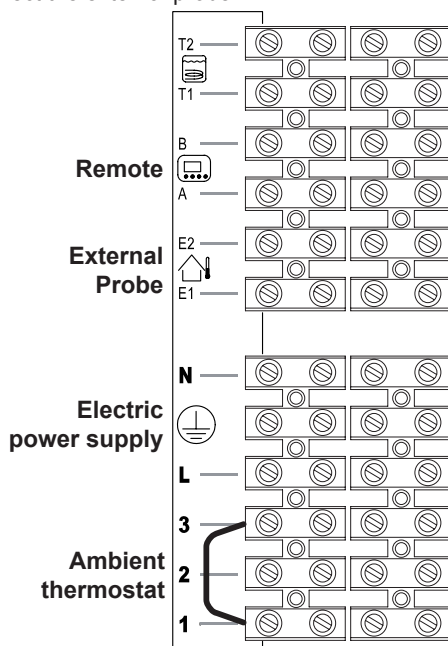

Fig. 6.31
To remotely connect utilise the terminals indicated in Fig. 6.31.
Use the clamps indicated in Fig. 6.31 to connect the external probe.
Use the clamps indicated in Fig. 6.31 to connect the remote.
**Do not remove the electric jumper connected on the ambient thermostat terminal block between "1 and 3" Fig. 6.31.**